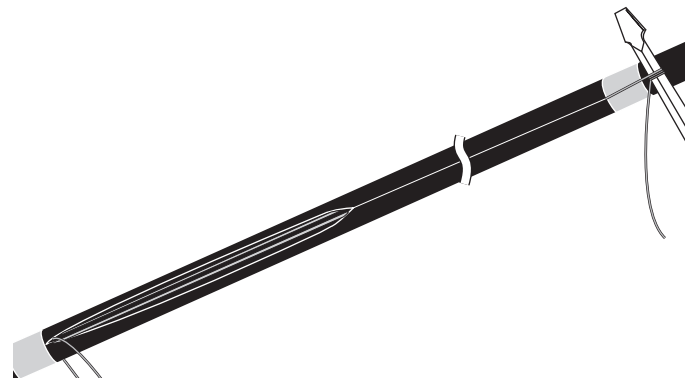

Figure 20
6.6 Using the shaft of a screwdriver as a handle, pull one rip cord at a time through the sheath to the opposite wrap of tape (Figure 20).